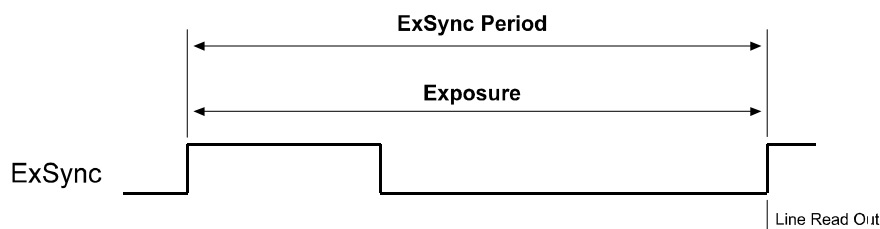

Figure 3-3: ExSync, Edge-Controlled Mode
- In **ExSync, edge-controlled** mode, the pixels are exposed and charge is accumulated over the full period of the ExSync signal (rising edge to rising edge). The falling edge of the ExSync signal is irrelevant. The line is read out and transferred on the rising edge of ExSync. (see Figure 3-3.)